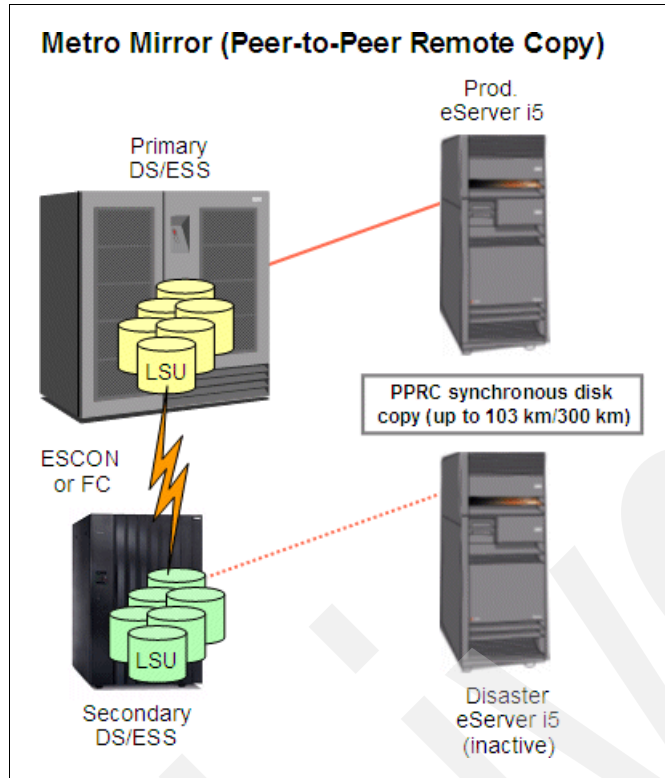

Figure 24-6 Mirrored external disks (Metro Mirror)
- ▶ Mirrored external disks, Metro Mirror (Figure 24-6 on page 441):